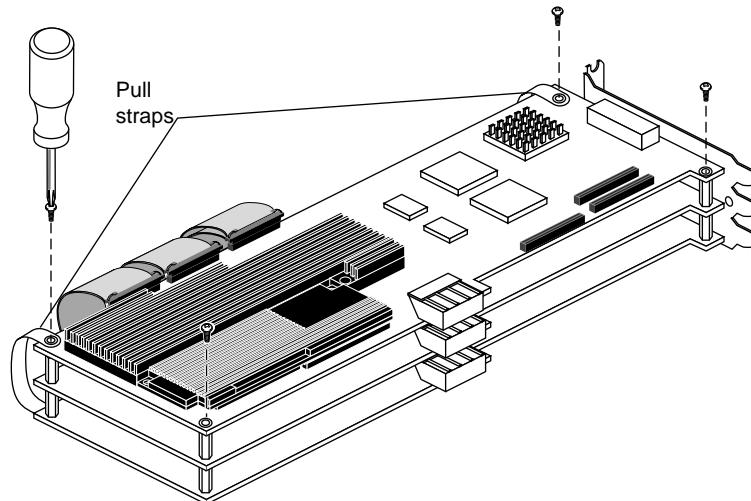

Figure 5-31 Removing the Screws From the Standoffs
2. Use a Phillips screwdriver to remove the screws from the standoffs, as shown in Figure 5-31.